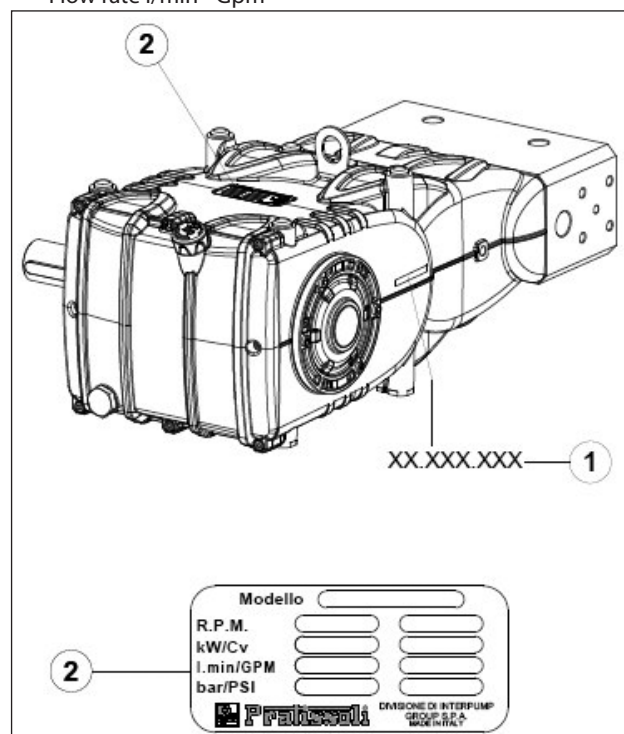

Fig. 1
Each pump Fig. 1 has its own Serial No. XX.XXX.XXX see pos. ① and an identification label, see pos. ② which shows: